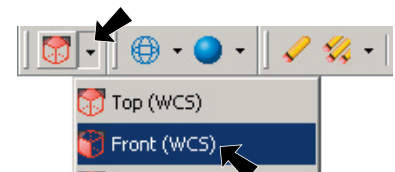

Fig. 11
Step 7. Click the down arrow of the Set Planes button  in the toolbar and click **Front (WCS)**, Fig. 11.